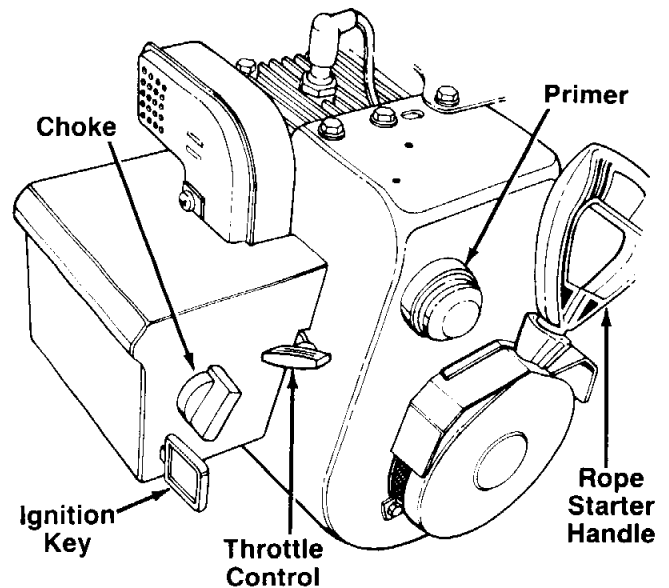

FIGURE 22.—Model 31353 Shown
THROTTLE CONTROL (See figure 22)
SAFETY IGNITION SWITCH (See figure 22)
1. Turn choke to FULL position. See figure 22.
2. Push primer two (2) or three (3) times. See figure 22.